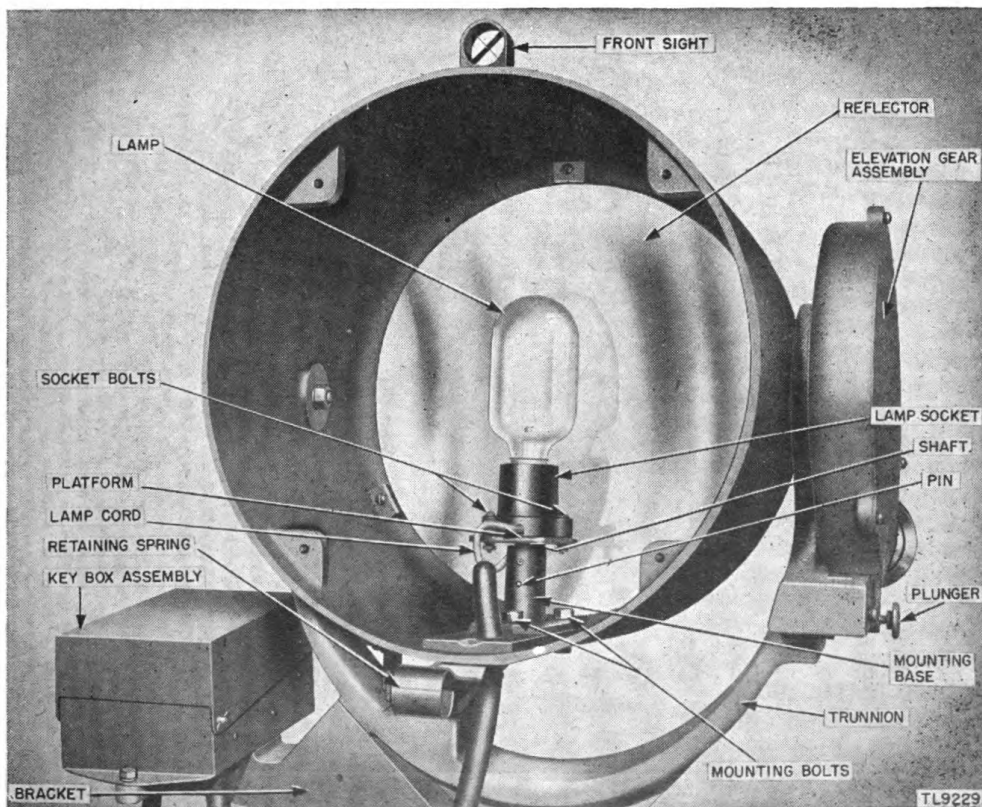

Figure 5. Inside of lamp housing of Signal Lamp M-283.
*h. REFLECTOR.* The rhodium reflector is mounted in the rear of the inside of the lamp housing. It is held in place by three retaining clips and screws (see fig. 5).